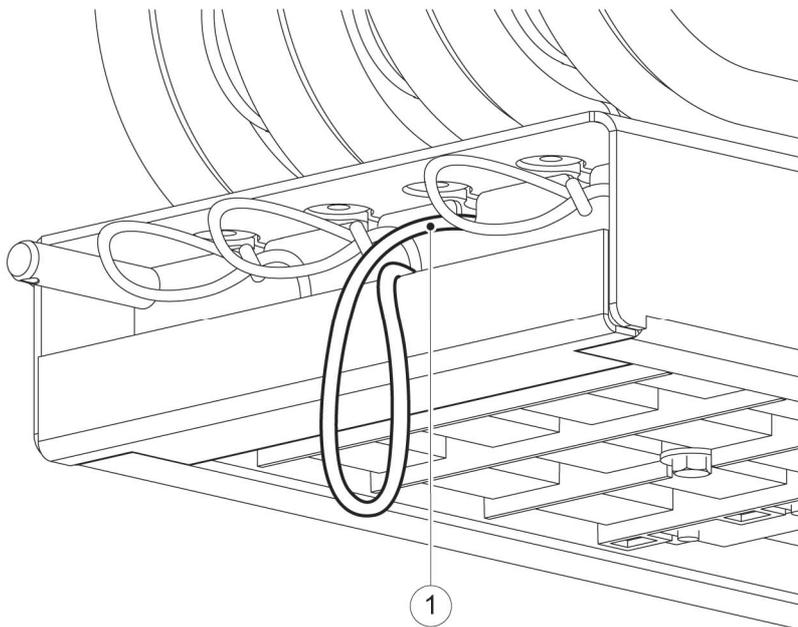

Figure 1: Untie the cord
4. Untie the knot (fig. 1/1) of the cup cord at the mothership side.